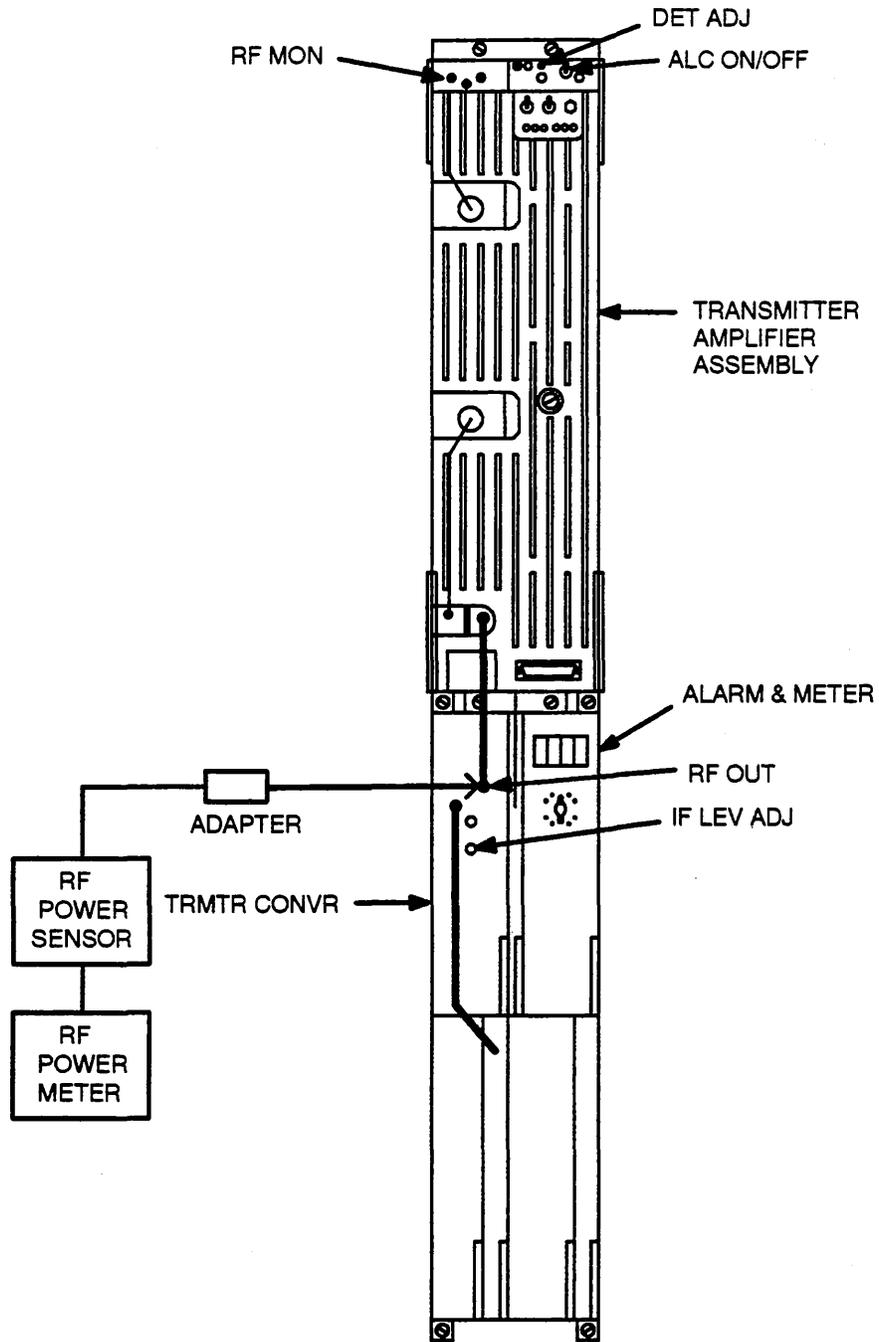

Figure 8-TRMTR CONVR RF OUT Test Connections
- Refer to Figure 8.
5. Condition the RF power meter to measure the expected power level (normally -2 to +5 dBm), and connect the meter to the RF OUT jack on the TRMTR CONVR (Figure 8).